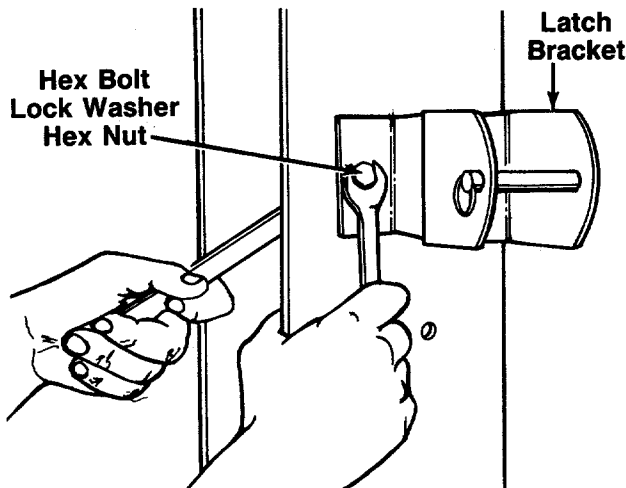

FIGURE 7.
- With the beam still in the upright position, place the pivot latch on the beam as shown in figure 7. Secure with hex bolts, lock washers and hex nuts just removed. Tighten securely.